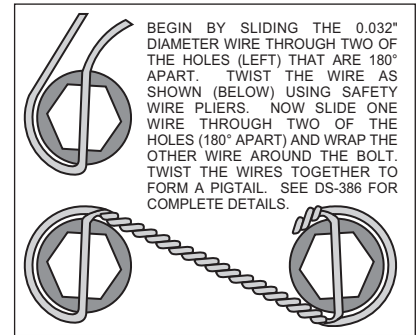

Figure 4. Safety Wire Diagram
- Slide the caliper mounting bracket kit assembly (1) onto the housing flange and then insert the axle assembly through the center hole of the caliper mounting bracket assembly (1) and secure using the stock Original Equipment Manufacturer (OEM) bolts and nuts. Stock OEM hex nuts that retain the caliper mounting bracket assembly (1) should be on the wheel side of the bracket. Apply red *Loctite*® 271 to the stock OEM bolt threads and torque to OEM specifications. Make sure the heads of the caliper mounting bracket assembly (1) insert nuts are FACING OUTWARD TOWARDS THE WHEEL.
- Align the correct hole pattern in the rotor (2) with the stud pattern on the axle flange. **NOTE:** Some OEM and after market axles come with stud sizes larger than 0.50" diameter. Verify stud size and have a qualified machine shop drill the hat section of the rotor to the correct size, if necessary. Slide the rotor (2) over the wheel studs covering the mounting bracket assembly (1) and against the axle flange face.
- NOTE:** Please reference the caution statement at the beginning of the assembly instructions. WITH THE BLEED SCREWS POINTING UP, mount the caliper (3) over the rotor (2) and onto the caliper mounting bracket (1) using lock washers (4) and mounting bolts (5). View the rotor through the top opening of the caliper. The rotor should be aligned in the center of the caliper. If not, adjust the caliper by using 0.032 inch shims (6) by placing them between the caliper mounting bracket (1) and the caliper (3). Apply red *Loctite*® 271 to the mounting bolt threads (5), torque to 30 ft-lb. Safety wire the caliper mounting bolts (5) using standard 0.032 inch diameter stainless steel safety wire as shown in Figure 4. Please refer to Wilwood's data sheet DS-386 (available at www.wilwood.com/pdf/ds386.pdf) for complete safety wire installation instructions.
- Position the Wilwood disc brake pads (7) into the caliper (3) and fasten with cotter pin (8). Steel backing plate side of brake pad should face the caliper pistons.
- NOTE:** Clevis and cable kits which attach to the parking brake assembly are not included in the Wilwood parking brake kit. Wilwood offers a generic style parking brake cable kit, P/N 330-9371 for this application which can be ordered separately from your local Wilwood dealer or by calling Wilwood customer service at (805) 388-1188.
- Before final installation of the wheel, install a couple of lug nuts and adjust the parking brake shoes outward (using a drum shoe adjustment tool available at your local auto parts store) while spinning the rotor/hat (2) until a slight drag is felt again the hat/drum.